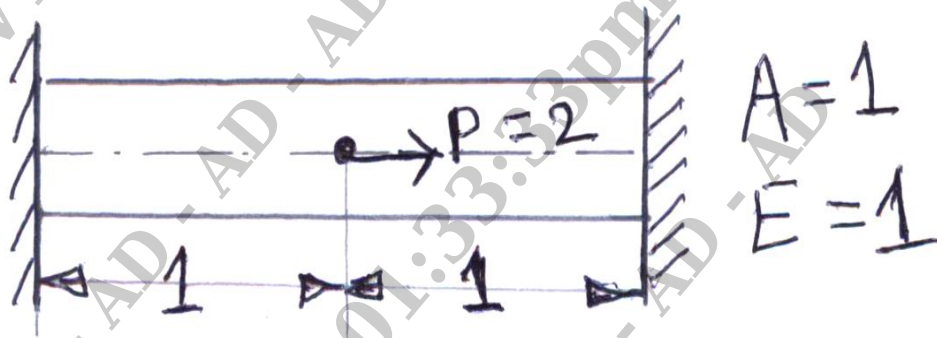

Fig. Q. 2 (a)
- Using Rayleigh – Ritz method, determine the displacement at midpoint and stress variation in a one dimensional rod as shown in fig. Q.2 (a). (08Marks)